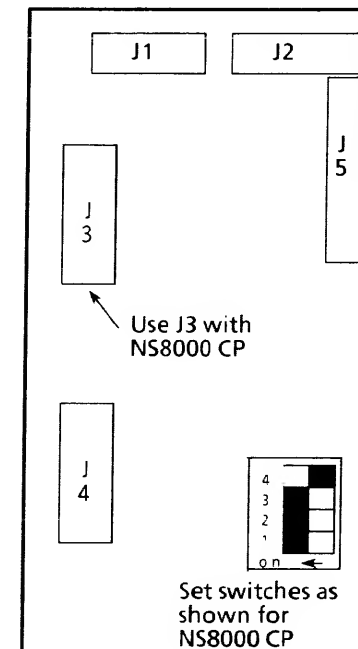

Figure 5-5a. C-Video PWB
- o Check that switch setting on C-Video PWB are as shown in Figure 5-5a.